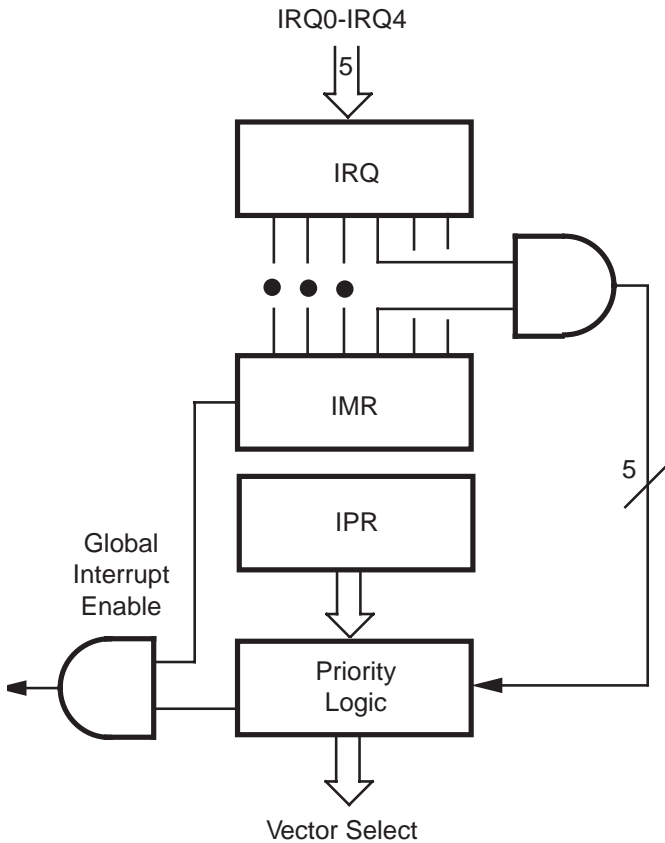

Figure 17. Interrupt Block Diagram
**Interrupts.** The Z86U18 has five different interrupts from three different groups. These interrupts are maskable and prioritized (Figure 17). The five sources are divided as follows: three sources are claimed by Port 3 lines P33-P31, one is claimed by the counter/timer, and the other is claimed by the USB interface. The Interrupt Masked Register globally or individually enables or disables the six interrupts requests.